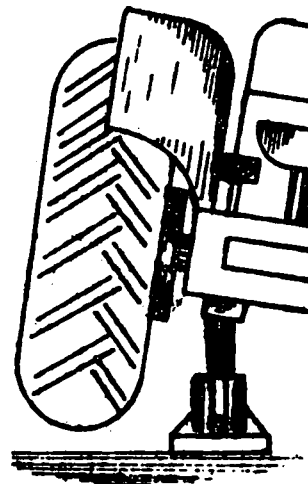

Fig. 1
- f) Place a jack under the rear axle and lift the wheel (Fig. 1).